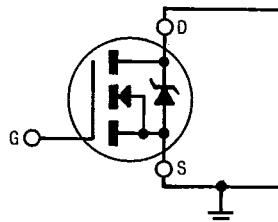
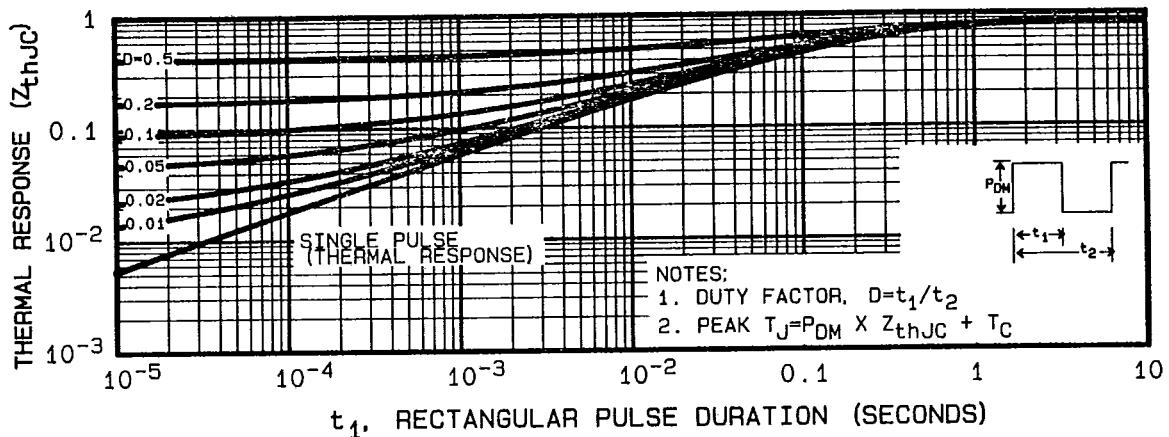

Fig. 11a — Gate Stress of V_{GSS} Equals 12 Volts
Fig. 17 — Maximum Effective Transient Thermal Impedance, Junction-to-Case Vs. Pulse Duration
The two test circuits used during low dose rate exposures are shown in figure 11. The first test circuit biases the gate electrode at 12 volts with respect to the drain and source electrodes (see fig. 11a). In general, a
② Repetitive Rating; Pulse width limited by maximum junction temperature (see figure 17)
③ @ $V_{DD} = 50V$, Starting $T_J = 25^\circ\text{C}$, $L = 6.3 \text{ mH}$, $R_G = 25\Omega$, Peak $I_L = 19A$.
④ $I_{SD} \leq 19A$, $di/dt \leq 180 \text{ A}/\mu\text{s}$, $V_{DD} \leq BV_{DSS}$. Suggested $R_G = 6.2\Omega$
⑤ Pulse width $\leq 300 \mu\text{s}$; Duty Cycle $\leq 2\%$
⑥ High Total Dose Irradiation with V_{GS} Bias. +12 volt V_{GS} applied and $V_{DS} = 0$ during irradiation per MIL-STD-750C, method 1019. (See figure 11a)